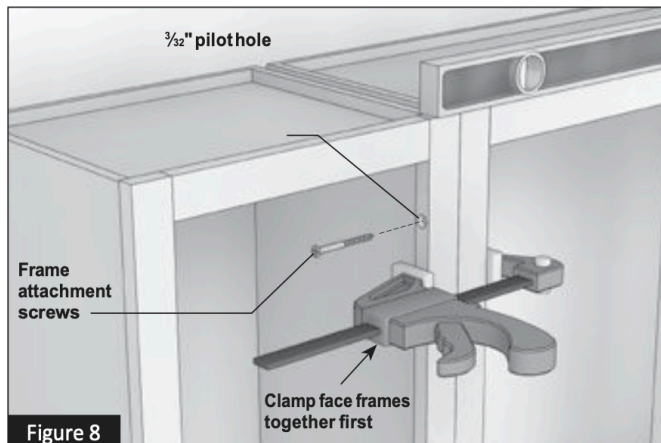

Figure 8
2.5 In order to attach two cabinets together, you will need to clamp them together first. Then, drill a 3/32" pilot hole in three places along the hinge side of the frame. Finally, drive in the #8 x 2 1/2" frame attachment (trim head) screws to join the two cabinets. (Figure 8)